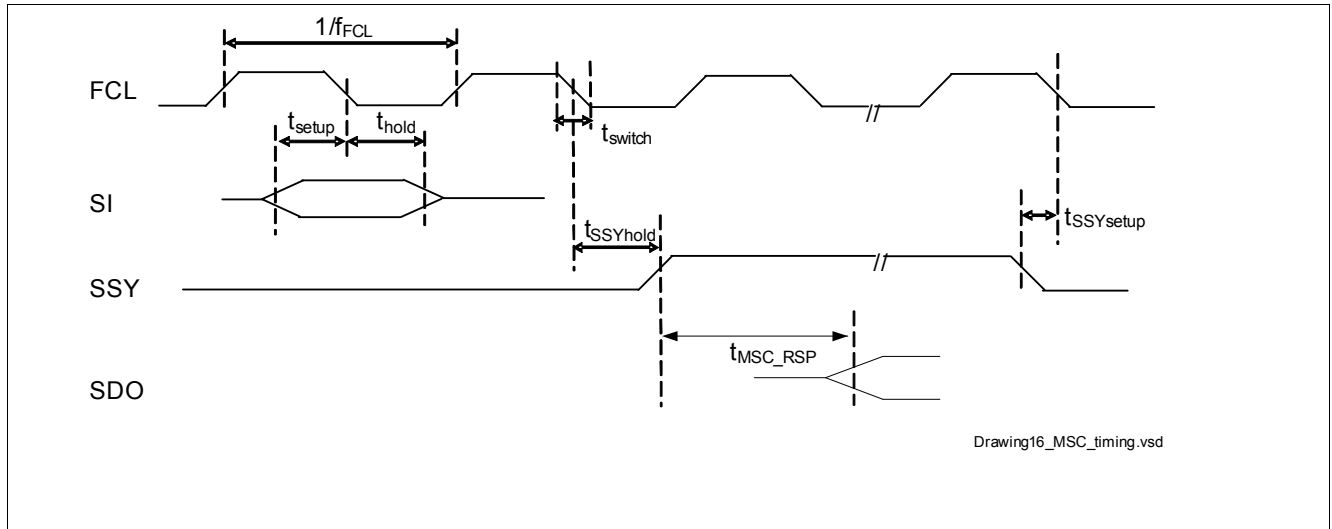

Figure 23 MSC timing
3) See Figure 19, Figure 20 and Figure 23.